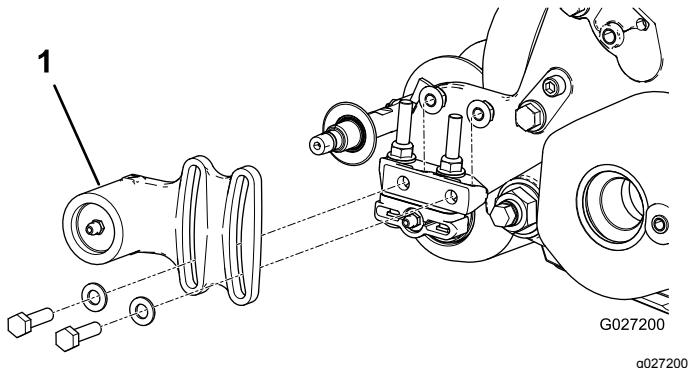
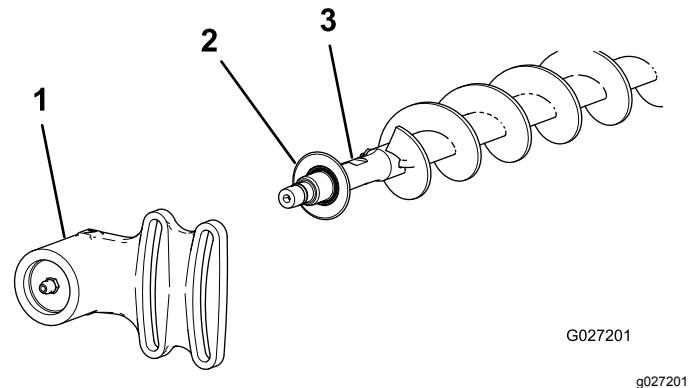

Figure 18
Figure 19
1. If a roller brush is installed on the cutting unit, remove the 2 bolts, washers, and nuts securing the non-drive-bearing housing to the bearing-housing mounting bracket (Figure 18 and Figure 19).
2. Slide the non-drive-bearing housing and the excluder seal off the brush shaft (Figure 19).
9. Install the excluder seal and the non-drive-bearing housing onto the brush shaft (Figure 19).